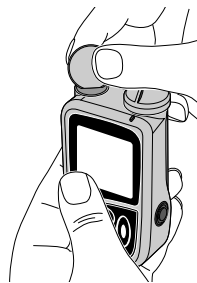

Figure 3
1. Put the side of a smooth-edged coin into the slot on the battery cap and turn it counterclockwise (left) to open it (see Figure 3). Remove the old battery (if present). Discard used batteries according to local laws and requirements.